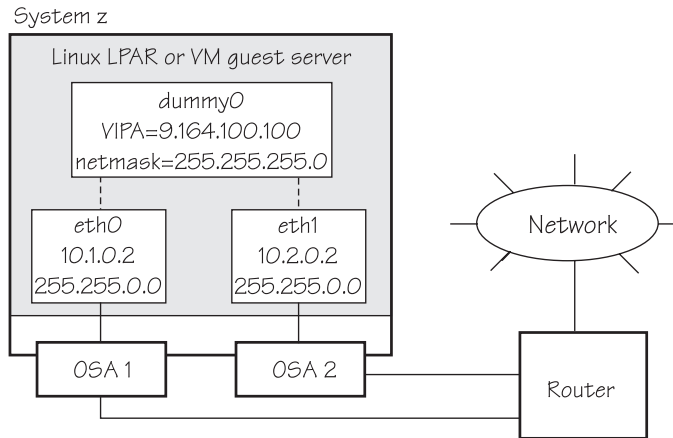

Figure 60. Example of using Virtual IP Address (VIPA)
- Static routing (shown in the example of Figure 60 on page 301).
Figure 60 on page 301 shows the network adapter configuration that is used in the example.